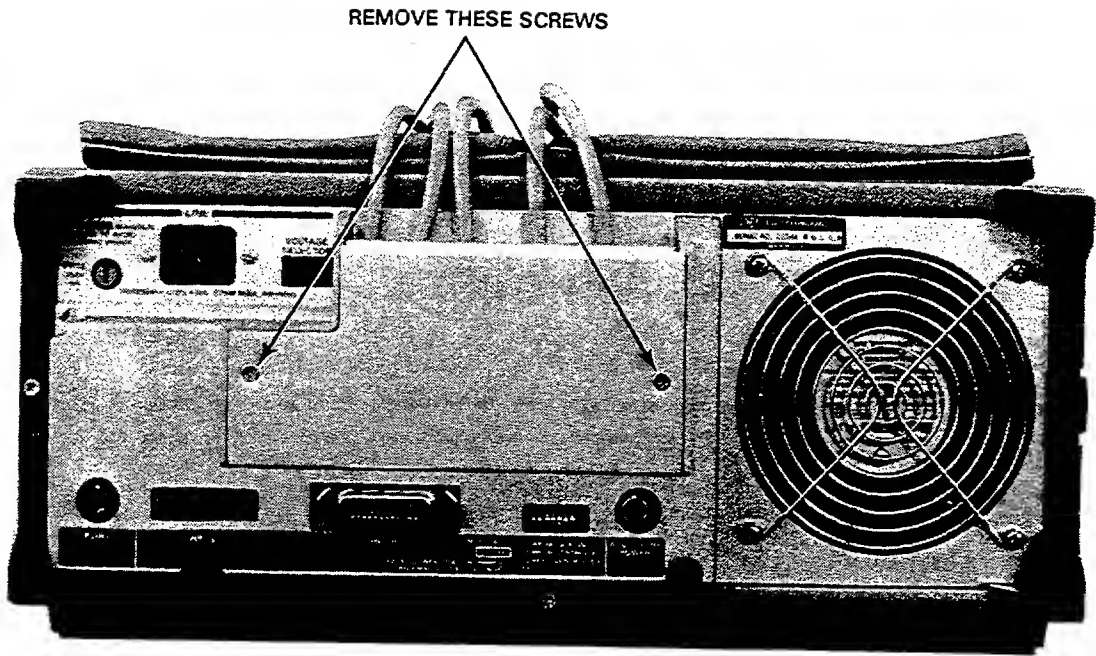

Figure 8-2.
- Completely remove the two screws that secure the rear door. See figure 8-2.